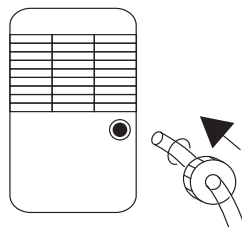

fig. 5
- 3) Insert the drain cap into the condensate drain hose (fig.5).